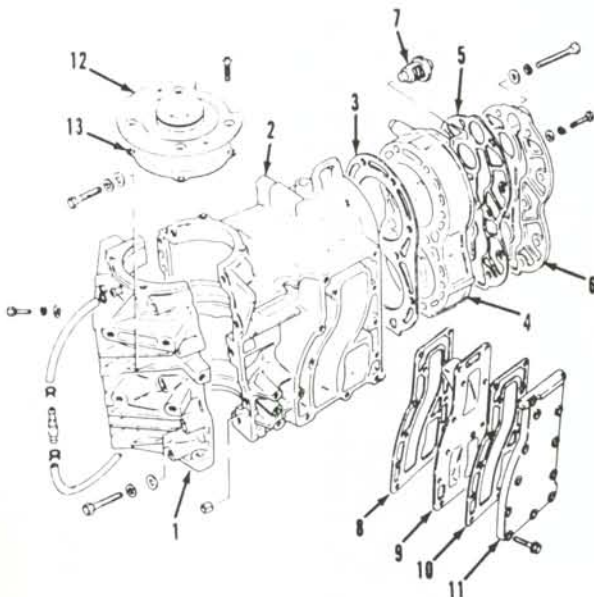

Fig. SZ11-14—Exploded view of cylinder block and crankcase assembly.
**THERMOSTAT.** A thermostat (7—Fig. SZ11-14) is used to regulate operating temperature. Thermostat should start to open within the temperature